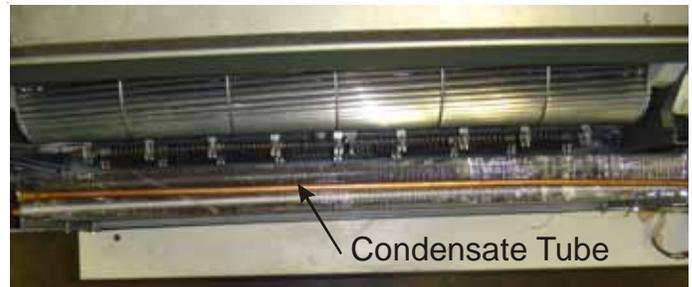

Figure 3
6. Push out the 1/2 inch diameter knockout on the back wall of the partition panel. Insert the short leg of the condensate tube. The condensate tube should protrude through the partition panel by 1-3/4 inches. Adjust the condensate tube so the tube lays flat and center on the coil (Figures 3).